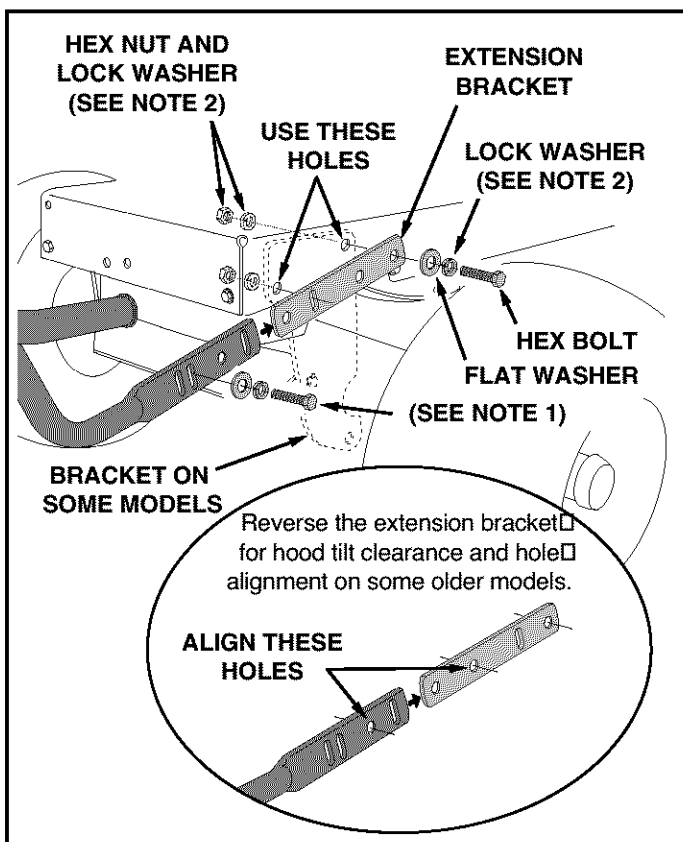

FIGURE 3
- Remove bolts from mounting holes in tractor frame. See figure 3.
- Attach extension bracket to rear mounting hole in frame using a 3/8" x 1-1/2" hex bolt, flat washer and lock washer. Be sure bracket is turned as shown in figure 3. Do not tighten yet.
- Slide bumper onto extension brackets. Align slots in bumper and extension brackets and fasten to frame using two 3/8" x 1-1/2" hex bolts, flat washers and lock washers. Push bumper down for hood tilt clearance and then tighten all bolts. See figure 3.